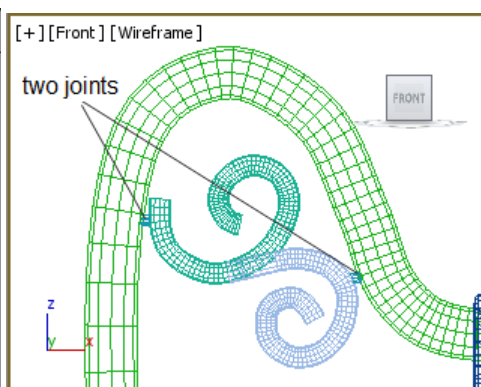

Figure 5-39 Two joints created
5. Make sure the **Line** tool is activated. In the **Rendering** rollout, make sure the **Enable in Renderer** and **Enable In Viewport** check boxes are selected. Also, set the value **0.03** in the **Thickness** spinner. Next, create two joints, as shown in Figure 5-39.